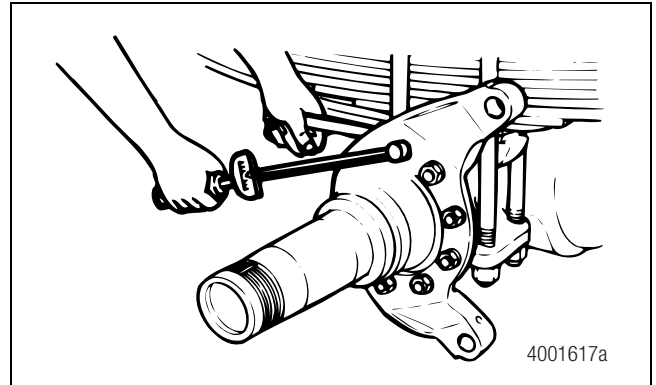

Figure 9.4
4. Use a crisscross pattern to tighten the nuts. Tighten the nuts to the specifications listed below. Figure 9.4.